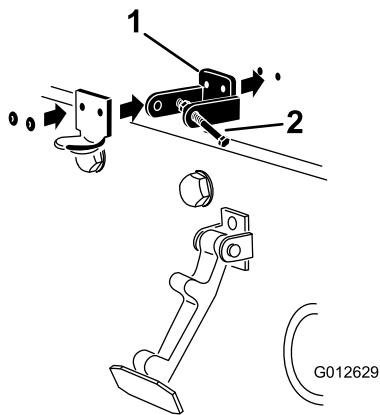

Figure 5
5. Rivet the brackets and the washers to the hood (Figure 5).